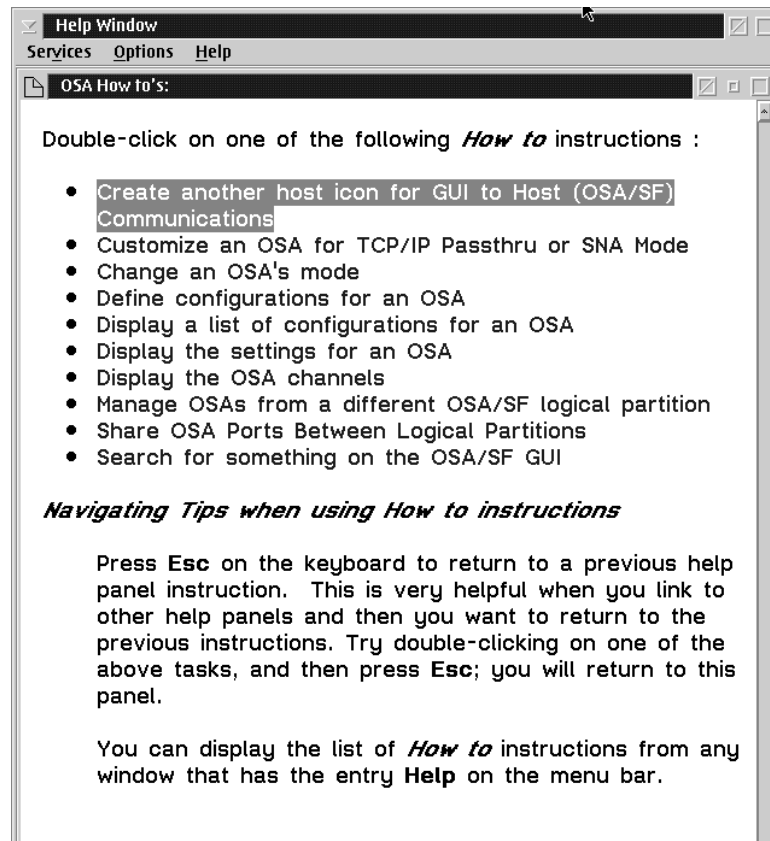

Figure 57. OSA How To Instructions. Double-click on any selection to display the instructions.
- ___ 2. Click on **How to** from the pull-down list to see the panel shown in Figure 57 on page 111.